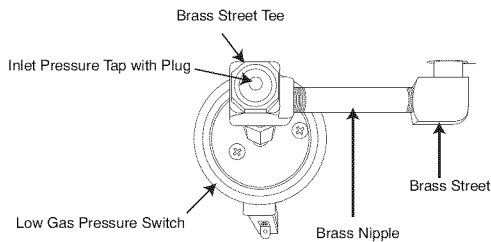

Fig. 13 - LGPS for Casing Wider Than 14-3/16 (360 mm) and Vent Does Not Pass Between Inducer and Burner Assembly
1. If the vent pipe does not pass between the inducer and burner assembly, or the furnace is wider than a 14 3/16-in. (360 mm) wide casing, install the switch as follows (See Fig 13):
13. Apply pipe dope sparingly to end of inlet gas pipe plug and install into unused end of 1/8 in. tee. Use a small back-up wrench on tee when tightening gas inlet pipe plug. (See Fig. 13.)